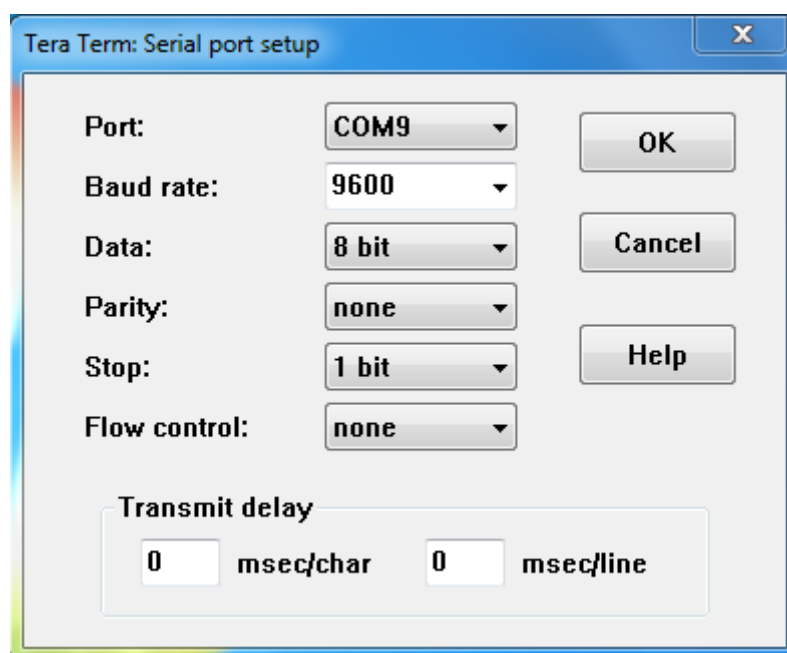

Figure 16 Tera Term Serial Port Setup Window
2. The port is opened with a default Baud Rate of 9600. Change the Baud Rate by selecting **Setup** —► **Serial Port**. Change the required Serial Port Setup parameters like Baud Rate, Data bits, Parity, Stop Bit as shown in Figure 16.